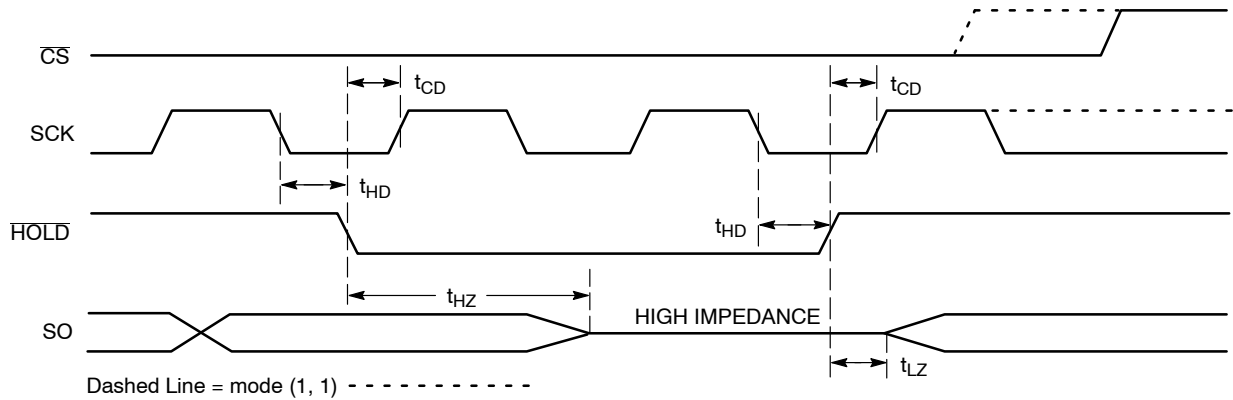

Figure 11.  $\overline{\text{HOLD}}$  Timing
The  $\overline{\text{HOLD}}$  input can be used to pause communication between host and CAT25512. To pause,  $\overline{\text{HOLD}}$  must be taken low while SCK is low (Figure 11). During the hold condition the device must remain selected ( $\overline{\text{CS}}$  low). During the pause, the data output pin (SO) is tri-stated (high impedance) and SI transitions are ignored. To resume communication,  $\overline{\text{HOLD}}$  must be taken high while SCK is low.